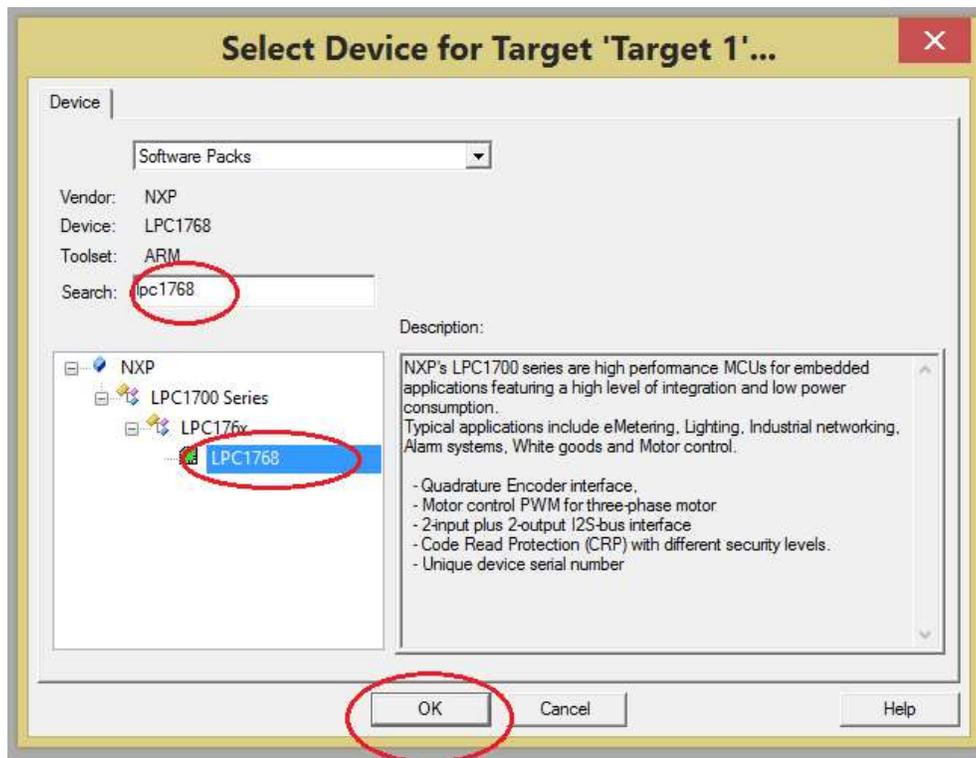

Figure 3
- Type "LPC1768" as shown in the Figure 3 and select the device and press OK.